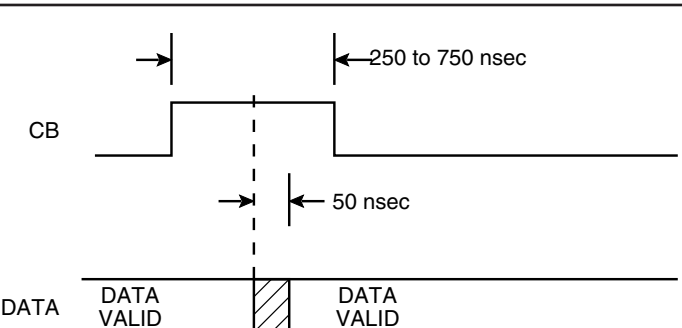

FIGURE 20. CONVERTER BUSY TIMING
The Converter Busy (CB) signal indicates that the tracking converter output angle is changing 1 LSB. As shown in FIGURE 20, output data is valid 50 ns maximum after the middle of the CB pulse. CB pulse width is  $1/40 F_S$ , which is nominally 375 ns.